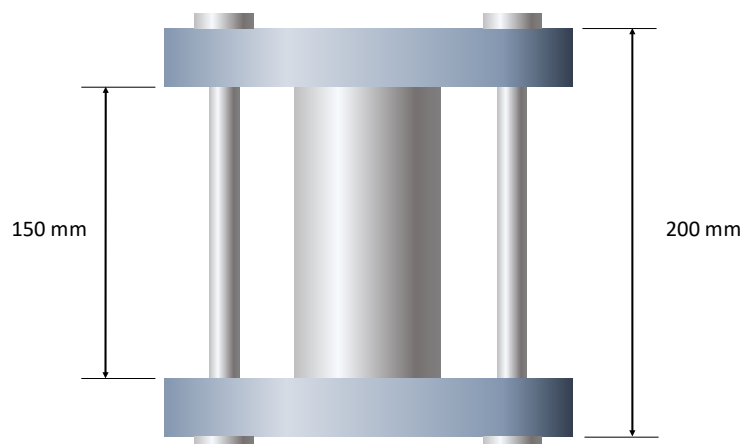

Figure Q4
4. The 50-mm-diameter central cylinder shown in Figure Q4 is made from aluminium ($\alpha = 23 \times 10^{-6} \text{ }^\circ\text{C}^{-1}$ and $E = 70 \text{ GPa}$) and is placed in the clamp when the temperature is $T_1 = 20^\circ \text{C}$. If the two steel ($\alpha = 11 \times 10^{-6} \text{ }^\circ\text{C}^{-1}$ and $E = 200 \text{ GPa}$) bolts of the clamp each have a diameter of 10 mm, and hold the cylinder snug with negligible force against the rigid jaws at T_1 , determine the stress in the cylinder when the temperature rises to $T_2 = 100^\circ \text{C}$.